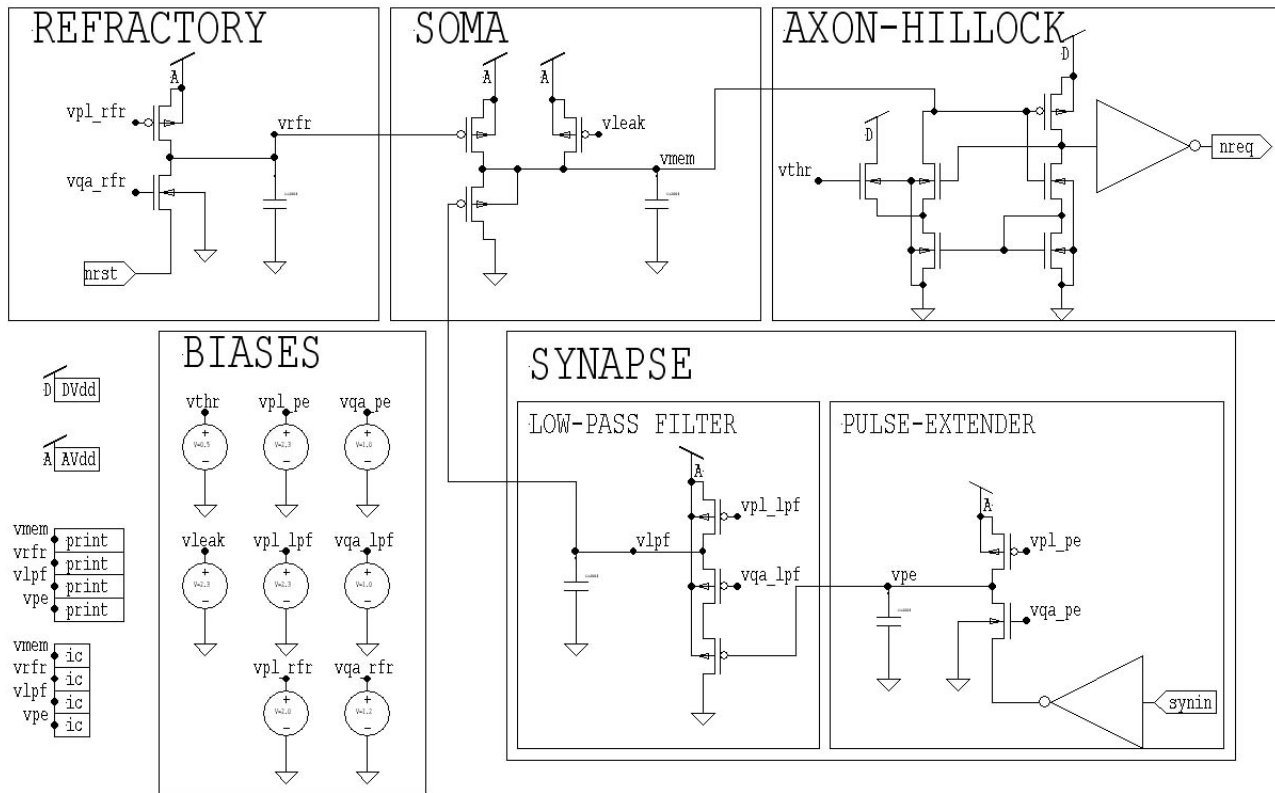

Figure 4.3: Example TestNeuron Schematic
- TestNeuron—receives synaptic input and generates spikes (see Figure 4.3).
To illustrate the correct sequencing of these signals, we present results from simulating the `testbench` with an example neuron circuit (Figure 4.3).² This conductance-based design includes an excitatory synapse, a refractory channel, a soma, and an axon-hillock. The synapse includes a pulse-extender that extends the nanosecond-wide pulse supplied by `PixelRcvIntfc`. The axon-hillock uses positive-feedback to generate a sufficiently fast `nreq` signal (`PixelXmtIntfc` requires rise and fall times under 5ns).